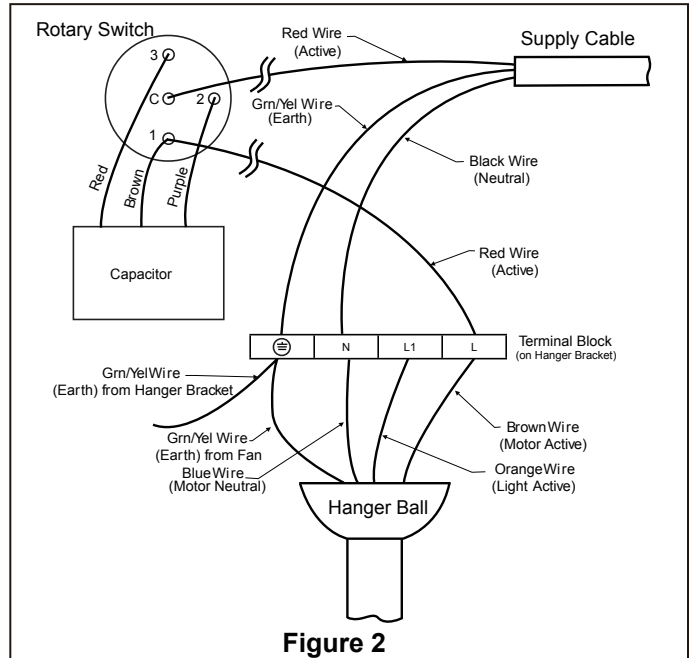

Figure 2
1. Securely connect the green/yellow earth wires from the hanger ball and the hanger bracket and the supply green/yellow earth wire to the terminal block as shown in Figure 2.
2. Securely connect the blue fan motor wire and the black supply neutral to the "N" terminal of the connector block as shown in Figure 2.
3. Securely connect the brown fan motor wire and the red (Active) supply wire to the "L" terminal of the connector block as shown in Figure 2. After connections have been made, carefully push leads into the recess making sure there is separation between connectors.
2. Ensure wiring connections are as shown in Fig 2. The Active (Red) supply wire must be connected to terminal "C" on the rotary switch. Return switched wire to ceiling fan to be connected from terminal "1" on the rotary switch to "L" terminal on the connector block.